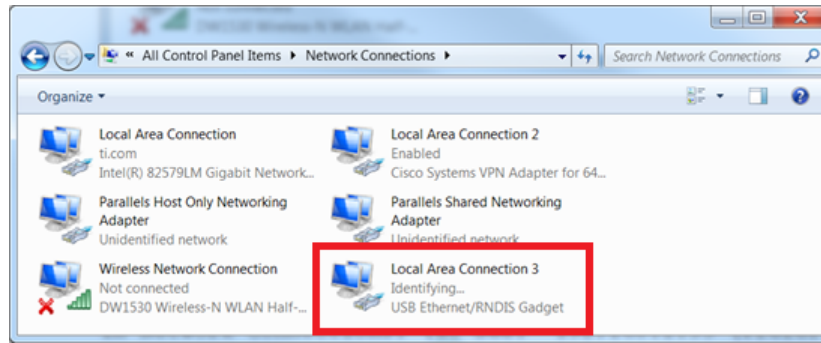

Figure 2-15. Windows 7 Network Connections Identifying Local Area Connection
5. Wait until the LAN connection stops "Identifying" or "Acquiring" a network address. See Figure 2-15.